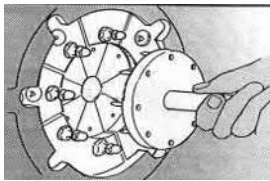

Figure 1.
- (1) Before installing dies, make sure that master dies are clean.
- (2) STOP THE MOTOR PRIOR TO CLEANING DIES.
- (3) Start the motor and select *manual* mode.
- (4) Set the swaging diameter dial to 0.0.
- (5) Open the master dies.
- (6) Insert the pins of the tool into the die set in the locker, turn the tool clockwise and pull the whole set out (Figure 1).
- (7) Hold the handle of the Quick Change tool as shown in Figure 1 and make sure your hand will not get between the dies.